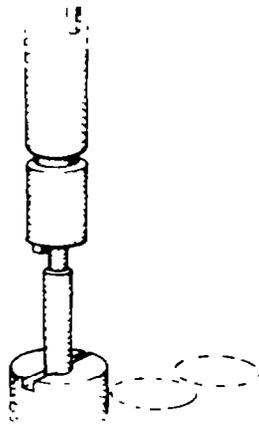

Fig. 33 — Lowering Sleeve Assembly
6. Lower the sleeve assembly over the cutting tool (see fig. 33).